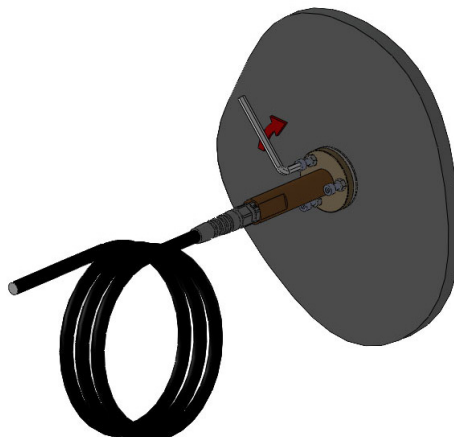

Fig.3.4
- Tighten the locking bolts using the allen tool in a clockwise motion, adjust to only hand tight. Once you are satisfied that the unit is fully embedded into the hull, you will notice that sealant has squeezed out from around the perimeter of the light. Using a thinner or cleaner, apply to work rag and wipe off excess sealant to leave a clean seal. If you do not see sealant squeeze out from the body, you have not used enough sealant or tightened the unit enough to the hull. Carefully examine the installation to make sure the seal you have installed on the unit is fully water-tight. If in doubt, remove light, re-apply sealant and re-install. (Fig.3.4)